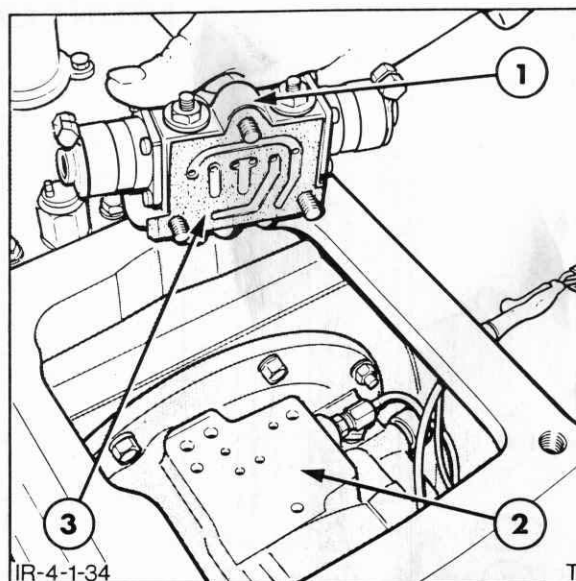

Figure 4-133
4. Remove the solenoid control valve securing bolts and remove the solenoid control valve from the distributor housing, Figure 4-133.